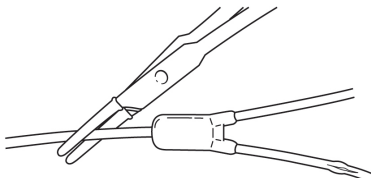

Fig. 10
1. Prepare the area. Firmly clamp the catheter distal to the Y-manifold with rubber-shod forceps. (Fig. 10)